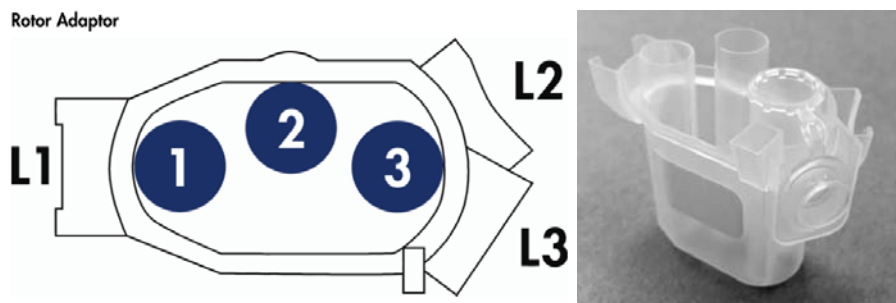

FIGURE 2 - QIACUBE ROTOR ADAPTER
10. At this point the samples should be in 1.5 mL Spin basket or Qiagen snap cap tubes. Place the 1.5 mL Spin basket or Qiagen snap cap tubes containing the lysate into position 3 of the rotor adapters. Bend the cap of each tube back and insert it into the cap holder in position L3 (see Figure 2 below).